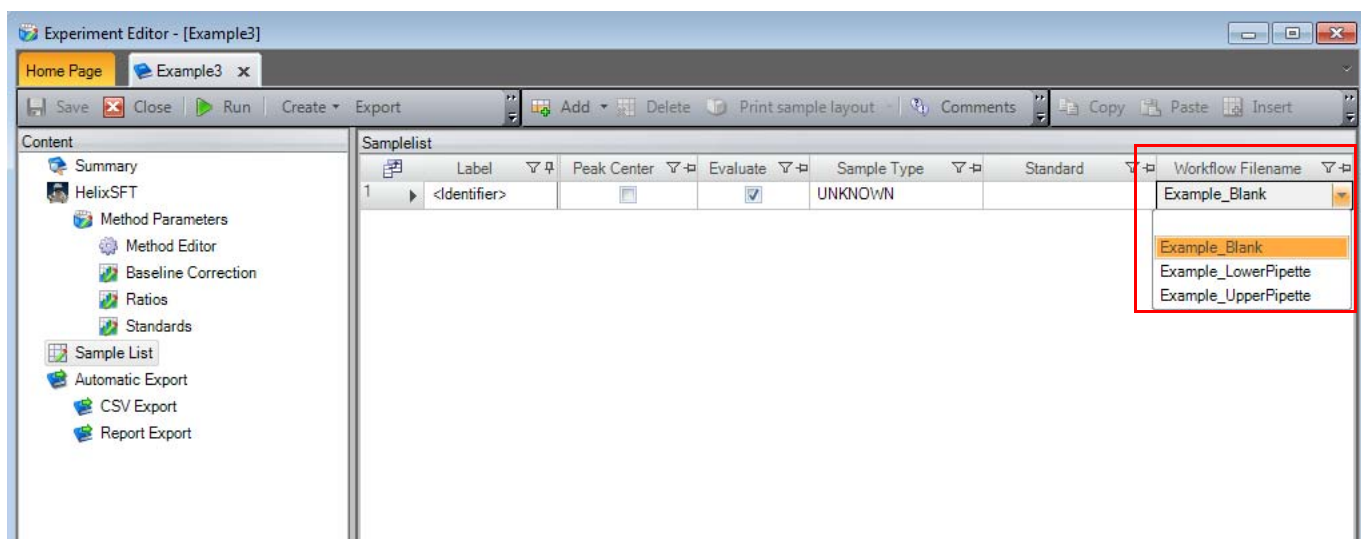

Figure 2-6. New LabBook with Workflow Filename dropdown selection
The LabBook is opened, see Figure 2-6.
- From the Content pane, select Sample List to display the list (see Figure 2-6). The rightmost column of the Sample list shows **Workflow Filename** as a new item. This item provides a listbox to select one of the available workflows.